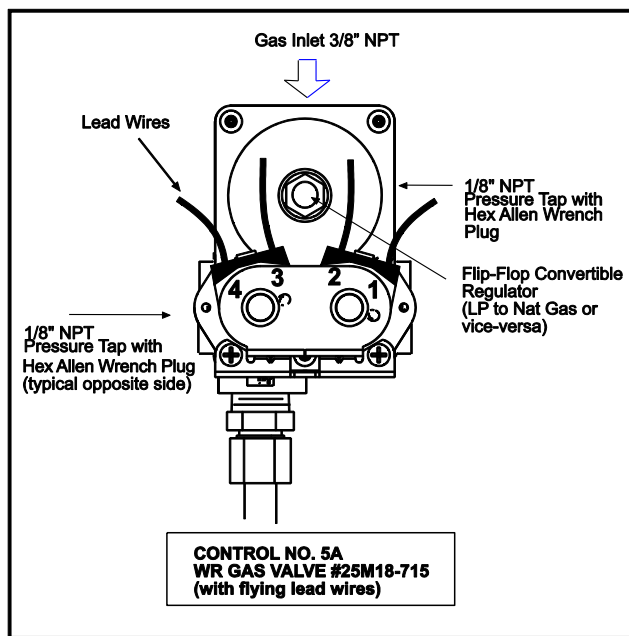

FIGURE 14
1. Be sure the valve is in the "OFF" position before removing the pressure tap plug at the valve. Connect a low-pressure test set (water manometer or dry gauge) to the 1/8" NPT Inlet Pressure Tap connection (see Figure 14). Turn the valve to the "ON" position. **DO NOT EXCEED THE PRESSURES SHOWN IN THE GAS PRESSURE TABLE.**
1. Be sure that the valve is in the "OFF" position before removing the pressure tap plug at the valve. With the main burner operating, check the manifold pressure using a lower-pressure test set connected to the 1/8" NPT Outlet Pressure Tap, (see Figure 14). Gas valves are combination valves with built-in appliance regulators. These regulators are factory set and should not require adjustment. They should provide the correct manifold pressure at the varying supply pressures noted in the Gas Pressure Table below. **DO NOT EXCEED THE PRESSURES SHOWN IN THE GAS PRESSURE TABLE.**